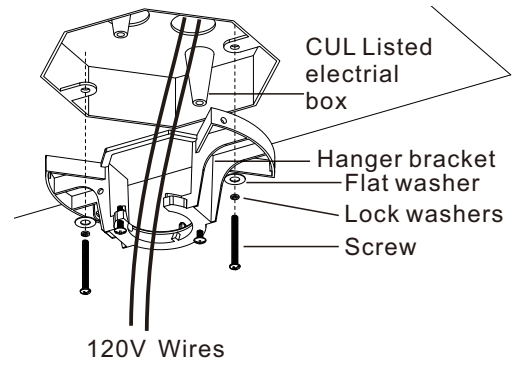

Figure 9
Step 1. Pass the 120-volt supply wires through the center in the ceiling hanger bracket as shown in (Fig. 9)